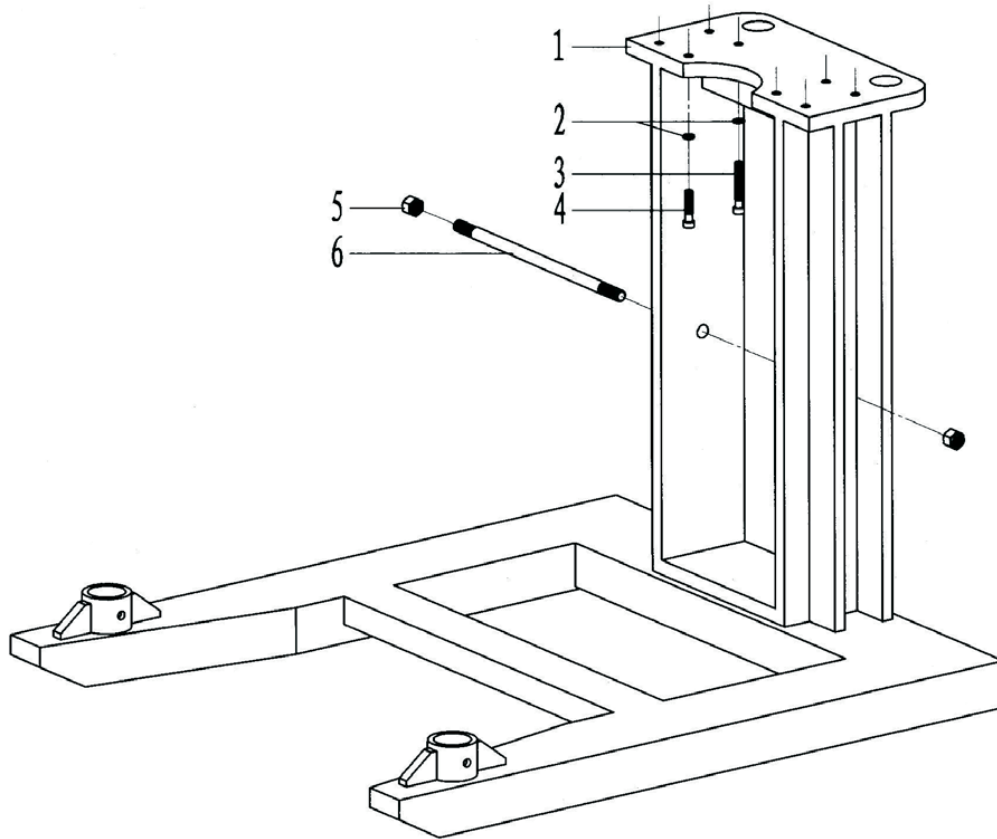

Fig.30
7.27 Rear support seat assembly(Fig.30,Table30)